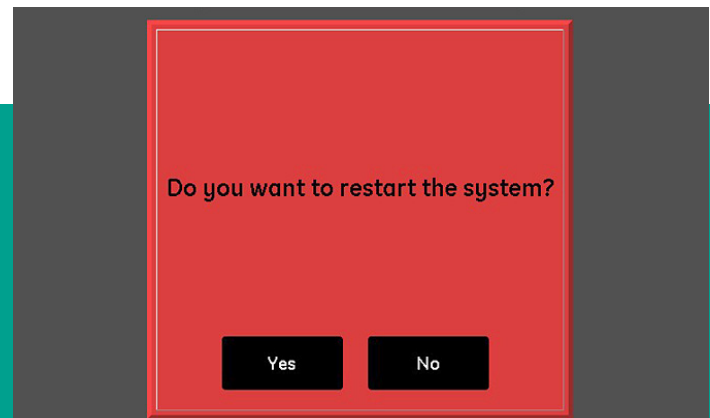

Figure 30: Restart confirmation screen
3. At the confirmation screen shown in *figure 30* below, tap the **yes** button to restart the unit or tap the **no** button to cancel the request.
To restart (i.e., reboot) the moisture.IQ system, tap the **restart** button. Then, tap either **yes** or **no** at a confirmation screen similar to the one shown in figure 30 on page 35.